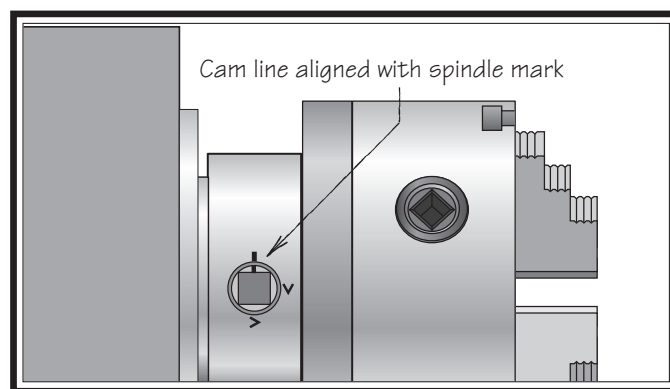

Figure 33. Camlock is fully loosened when the cam line is aligned with the spindle mark.
3. Loosen the camlocks by turning the key counterclockwise until each of the cam lines are aligned with its corresponding spindle mark (see **Figure 33**).